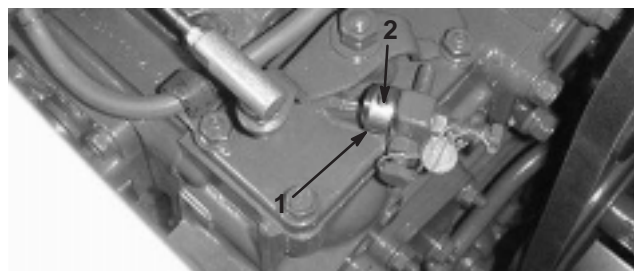

Figure 3
2. Slide throttle stop onto high idle stop screw (Fig. 3). Slot in throttle stop to be positioned over rib on engine.